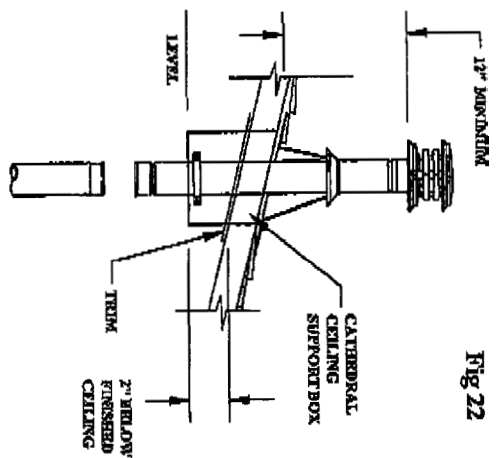

Fig 22
9. Connect the necessary amount of pipe sections to reach the stove at a point where the Cap will be at least 12-inches above the roof (Figure 22).